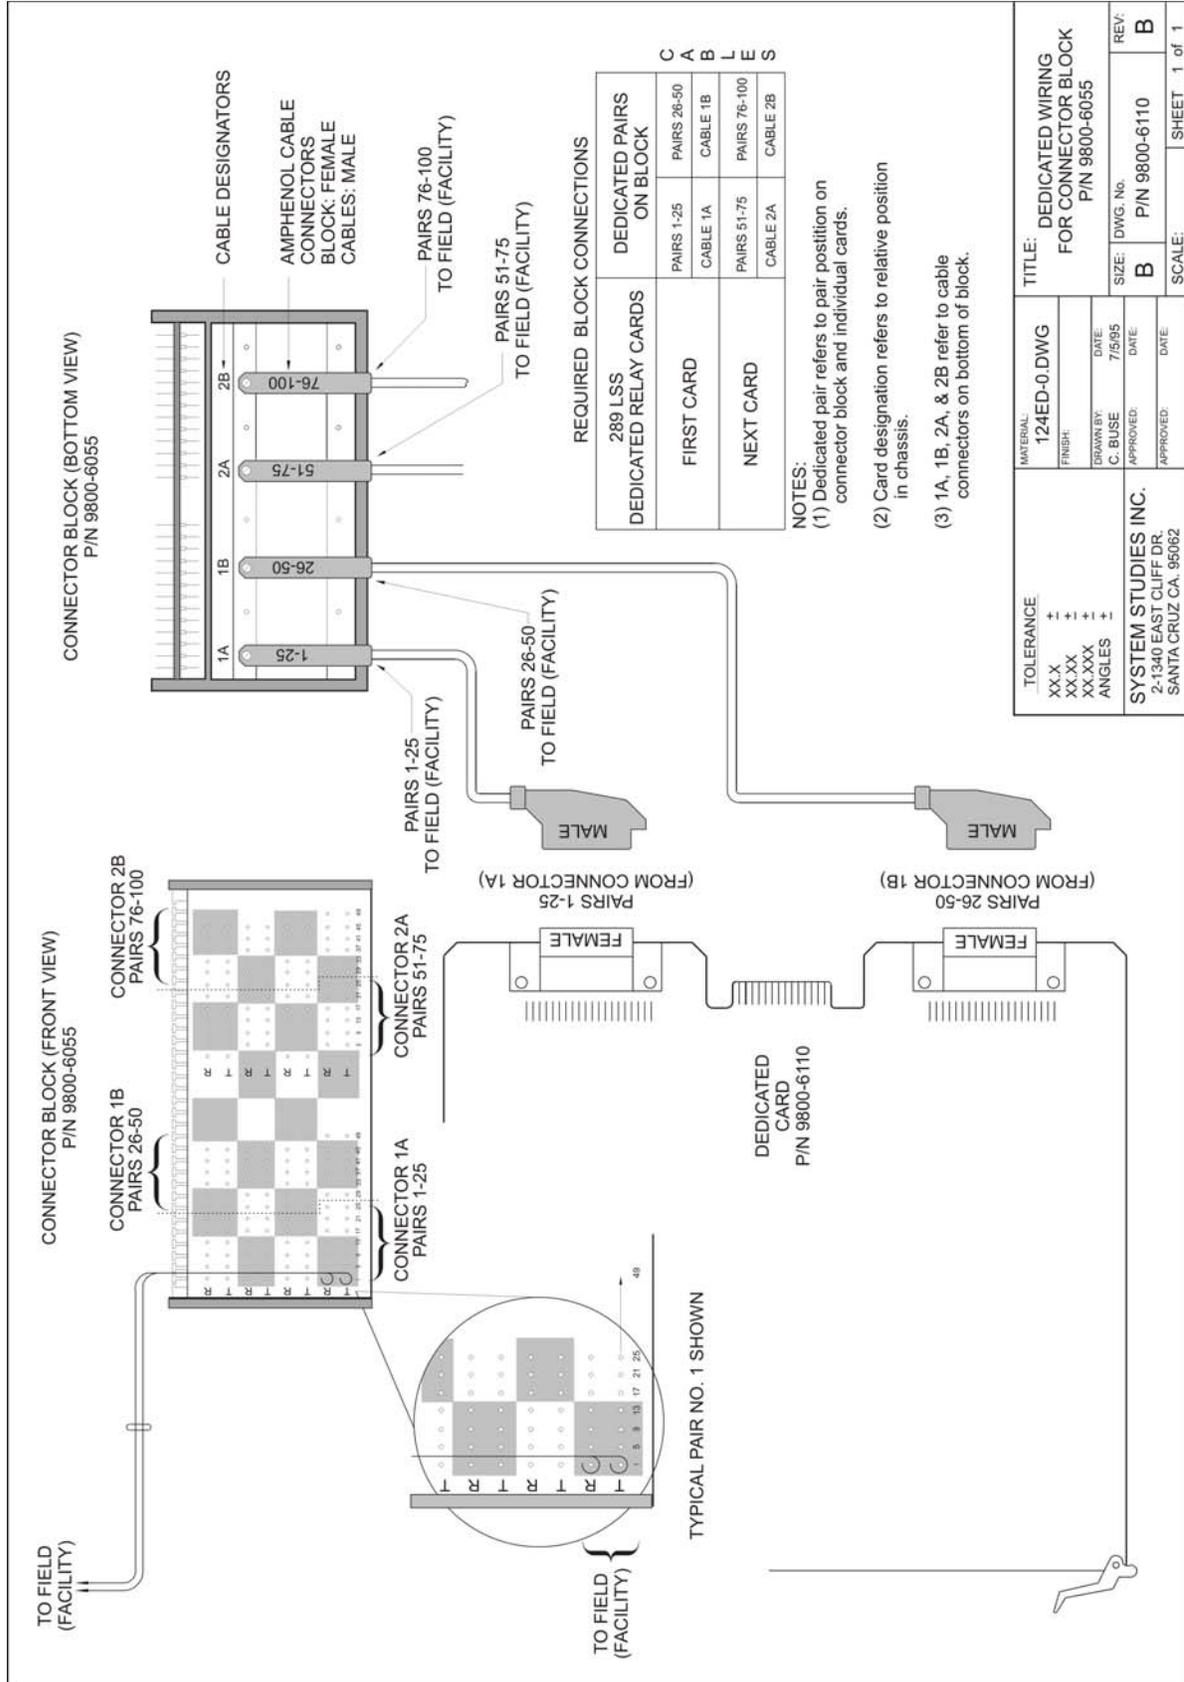

FIGURE 4-8: DEDICATED WIRING FOR DEDICATED BLOCK
3. Female cable connectors 1A and 1B, located at the bottom of the block, are internally wired to the pins in the left section of the block. Connector 1A (containing device pairs 1-25) MUST be cabled to the TOP connector of the dedicated relay card. Connector 1B (containing device pairs 26-50) MUST be cabled to the BOTTOM connector of the card (refer to FIGURE 4-8).
4. Female cable connectors 2A and 2B are internally wired to the pins in the right section of the block. Connector 2A (containing device pairs 51-75) MUST be cabled to the TOP connector of the next dedicated relay card in the 289H. Connector 2B (containing device pairs 76-100) MUST be cabled to the BOTTOM connector of this card (refer to FIGURE 4-8).